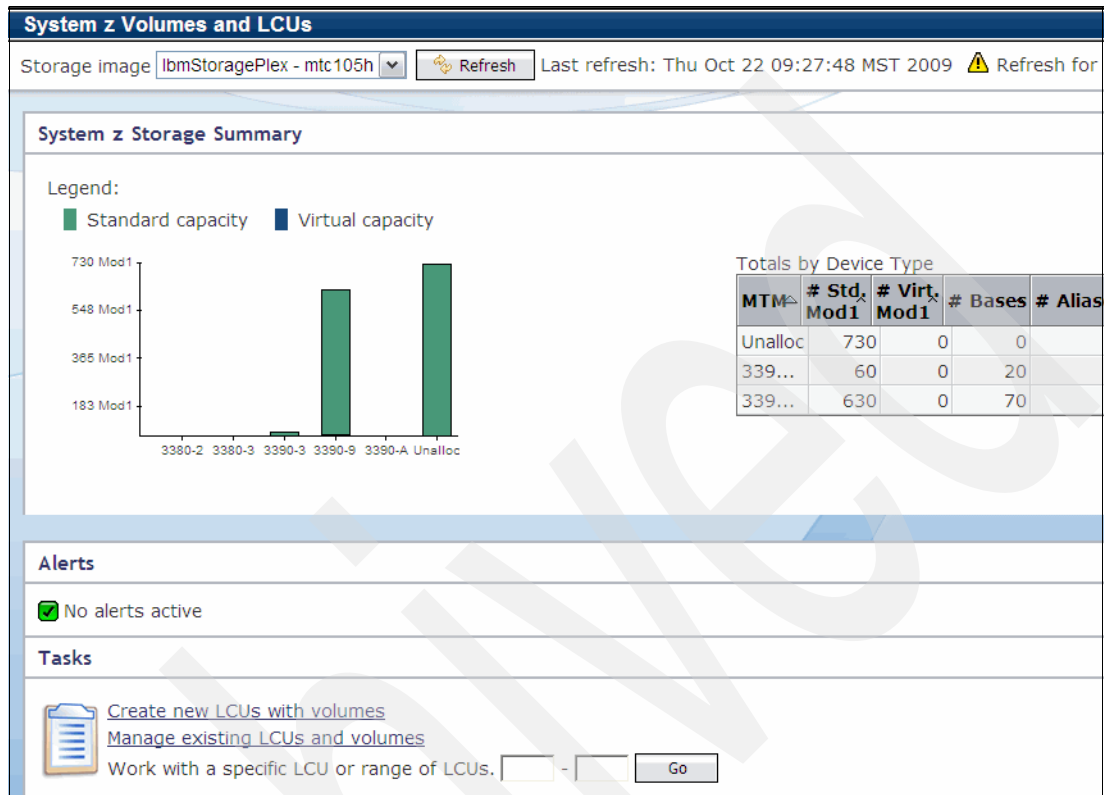

Figure 13-72 System z Volumes and LCUs: Summary
10. Once the creation is complete, a final window is displayed. You can select **View detail** or **Close**. If you click **Close**, you are returned to the main Open system Volumes window, as shown in Figure 13-72.
When you select **Manage existing LCUs and Volumes** (Figure 13-72), you can perform additional actions at the LCU or volume level.